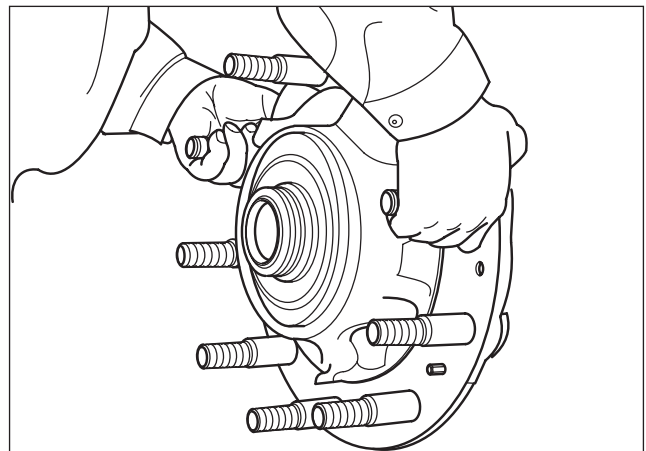

Fig. 3.22
23. Thoroughly grease the spindle bearing journals and locate the hub in position on the spindle without the external bearing. Fig. 3.22